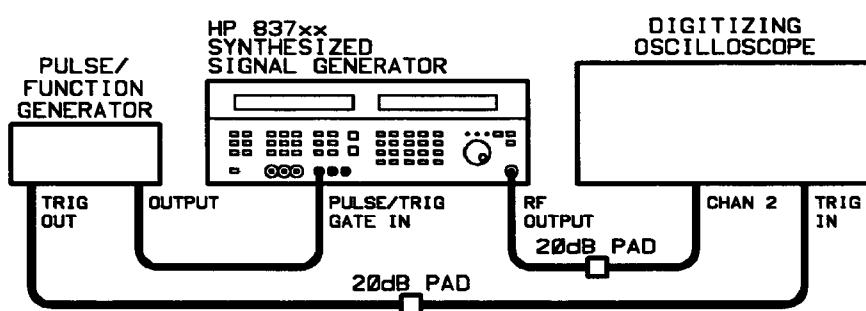

Figure 3-14. Pulse Rise/Fall Time Test Setup
1. Connect the equipment as shown in Figure 3-14.